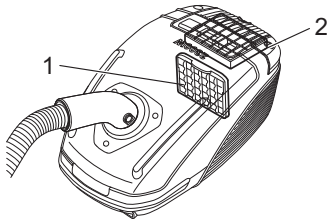

Fig. 23
■ If the dust filter bag is defective, a **protective motor filter (Fig. 23/1)** prevents larger particles from destroying the motor.
■ **A hygienic blow-out filter (Fig. 23/2)** filters the finest particles from the blown-out air.